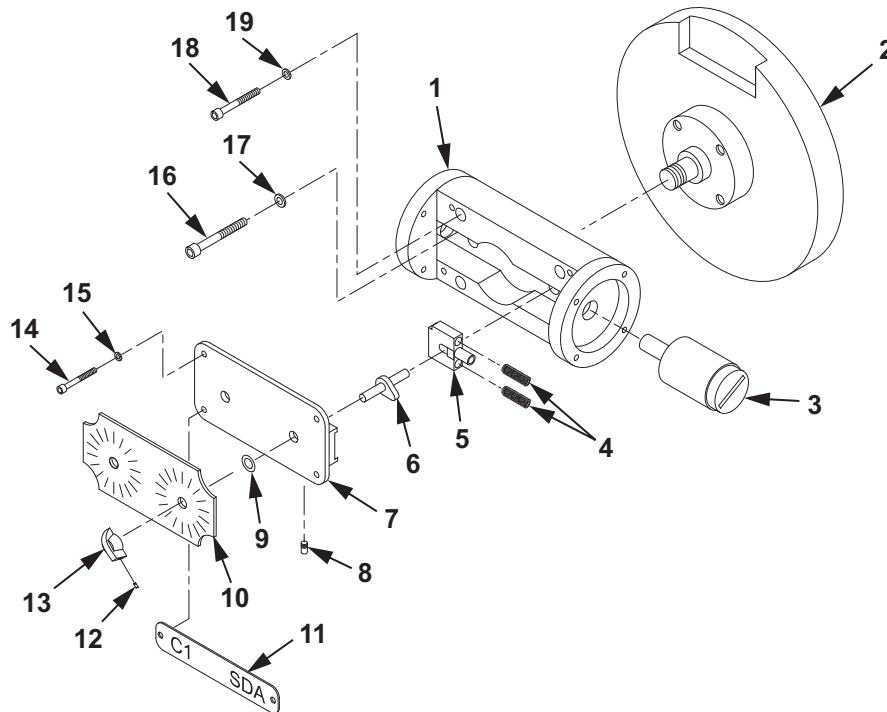

Figure 2. CI and SDA Injection Pump Installation.
6. Install four springs (Figure 2, Item 4) and two crossheads (Figure 2, Item 5) on CI and SDA injection pump assembly (Figure 2, Item 1).
7. Install two plungers (Figure 2, Item 3) on CI and SDA injection pump assembly (Figure 2, Item 1). Tighten plungers (Figure 2, Item 3).
8. Install stroke adjustment cams (Figure 2, Item 6) in cam guide cover (Figure 2, Item 7).
9. Install two new O-rings (Figure 2, Item 9) on cam guide cover (Figure 2, Item 7).
10. Install cam guide cover (Figure 2, Item 7) and stroke adjustment cams (Figure 2, Item 6) on CI and SDA injection pump assembly (Figure 2, Item 1).
11. Position CI and SDA indicator tag (Figure 2, Item 11) on cam guide cover (Figure 2, Item 7).
12. Apply antiseize compound to four screws (Figure 2, Item 14).
13. Install four new lockwashers (Figure 2, Item 15) and screws (Figure 2, Item 14) to secure CI and SDA indicator tag (Figure 2, Item 11) and cam guide cover (Figure 2, Item 7) to CI and SDA injection pump assembly (Figure 2, Item 1).
14. Install stroke indicator (Figure 2, Item 10) on stroke adjustment cams (Figure 2, Item 6).
15. Position stroke adjustment knobs (Figure 2, Item 13) onto stroke adjustment cams (Figure 2, Item 6).
16. Tighten two setscrews (Figure 2, Item 12) on stroke adjustment knobs (Figure 2, Item 13).
17. Tighten stroke adjustment setscrews (Figure 2, Item 8) on bottom of CI and SDA injection pump assembly (Figure 2, Item 1).